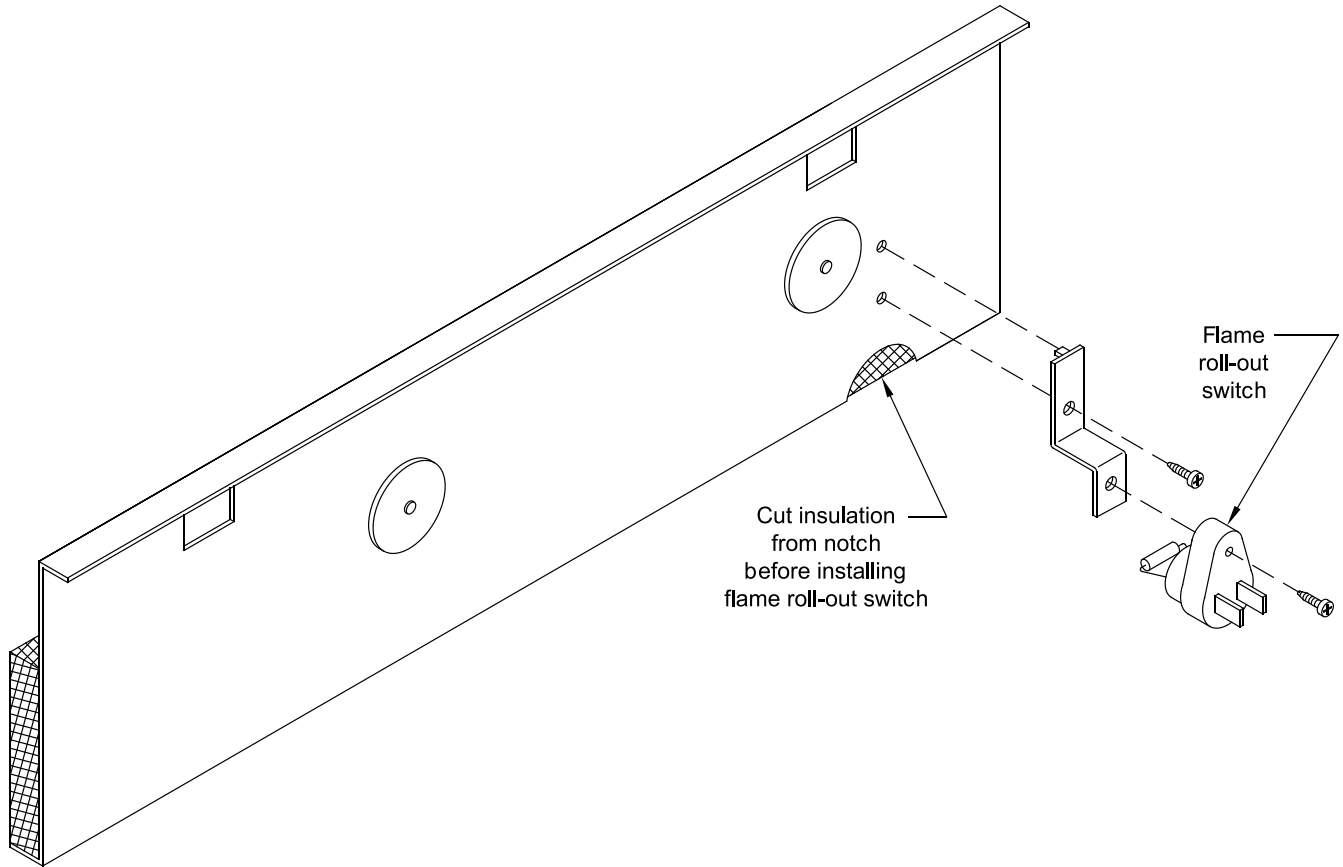

Figure 2-6: Flame Roll-out Switch Installation
- M. Attach Flame Roll-out Switch to Burner Access Panel. See Figure 2-6. Flame Roll-out Switch and hardware are located in Combination Boiler Parts and Control Carton. Flame Roll-out Switch is a single use device - do not test with heat - switch cannot be reset.
- Attach Flame Roll-out Switch Mounting Bracket to burner access panel with (1) #8 x 1/2 in. lg. sheet metal screw.
- Attach Flame Roll-out Switch to mounting bracket with (1) #8 x 3/4 in. lg. sheet metal screw.